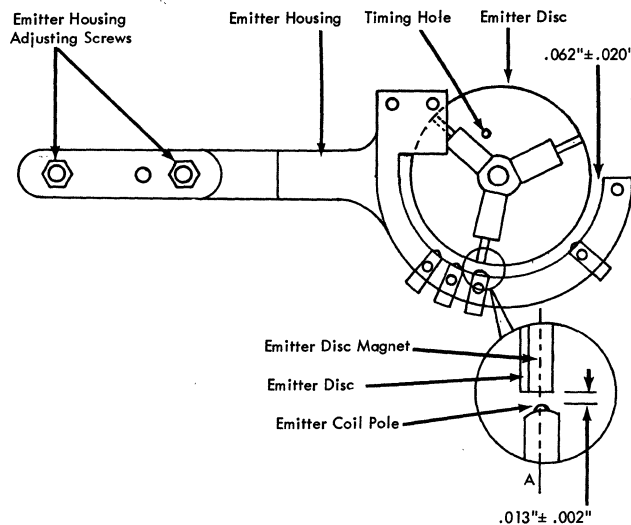

Figure 3-49a. PA Emitter Assembly
3. Position emitter disc horizontally, so disc magnet is opposite number three coil pole (Figure 3-49A, Insert A).
1. Position emitter housing for .062" ± .020" between emitter housing and emitter disc (Figure 3-49A).